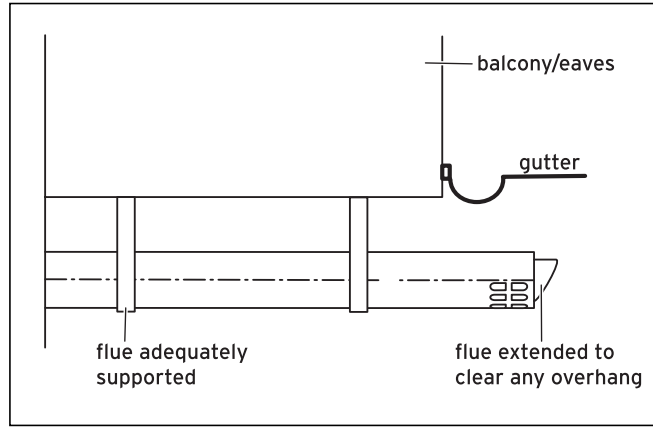

Fig. 3.9 Flue termination under balcony/eaves
- In order to ensure that the condensate plume does not affect adjacent surfaces the terminal should be extended as shown in Fig. 3.9.